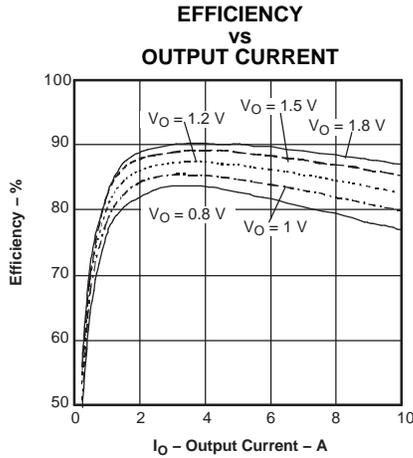
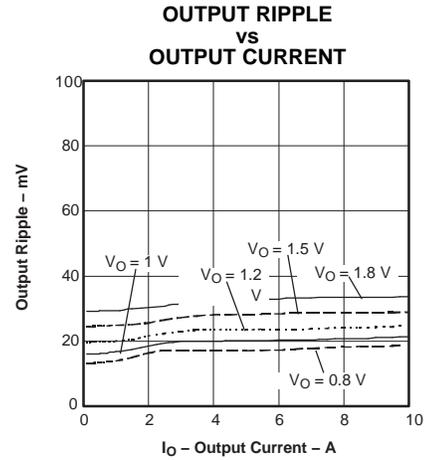
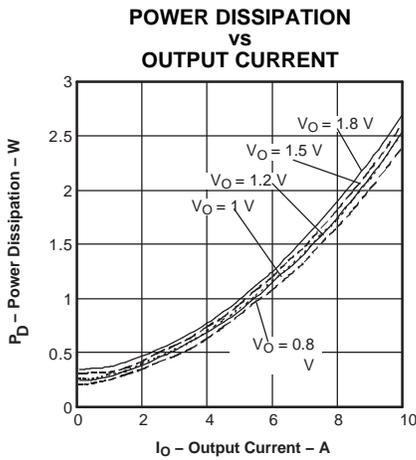

Figure 5.
Figure 6.
Figure 7.
- (1) Characteristic data has been developed from actual products tested at 25C. This data is considered typical data for the Converter. Applies to Figure 5, Figure 6, and Figure 7.